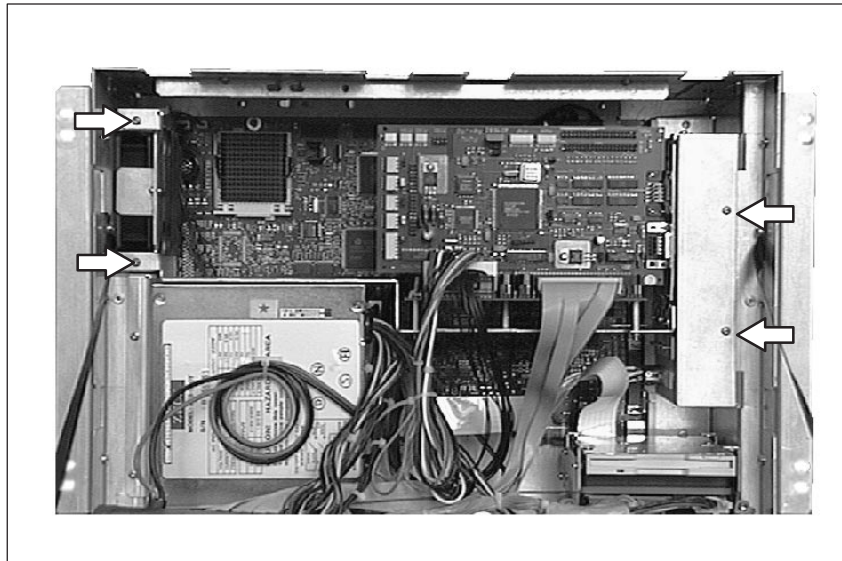

Figure 1-18 Mounting the crossbeam on the system housing
- Release the two screws on the right side of the crossbeam (see figure 1-18) and the two screws on top of the fan cage.